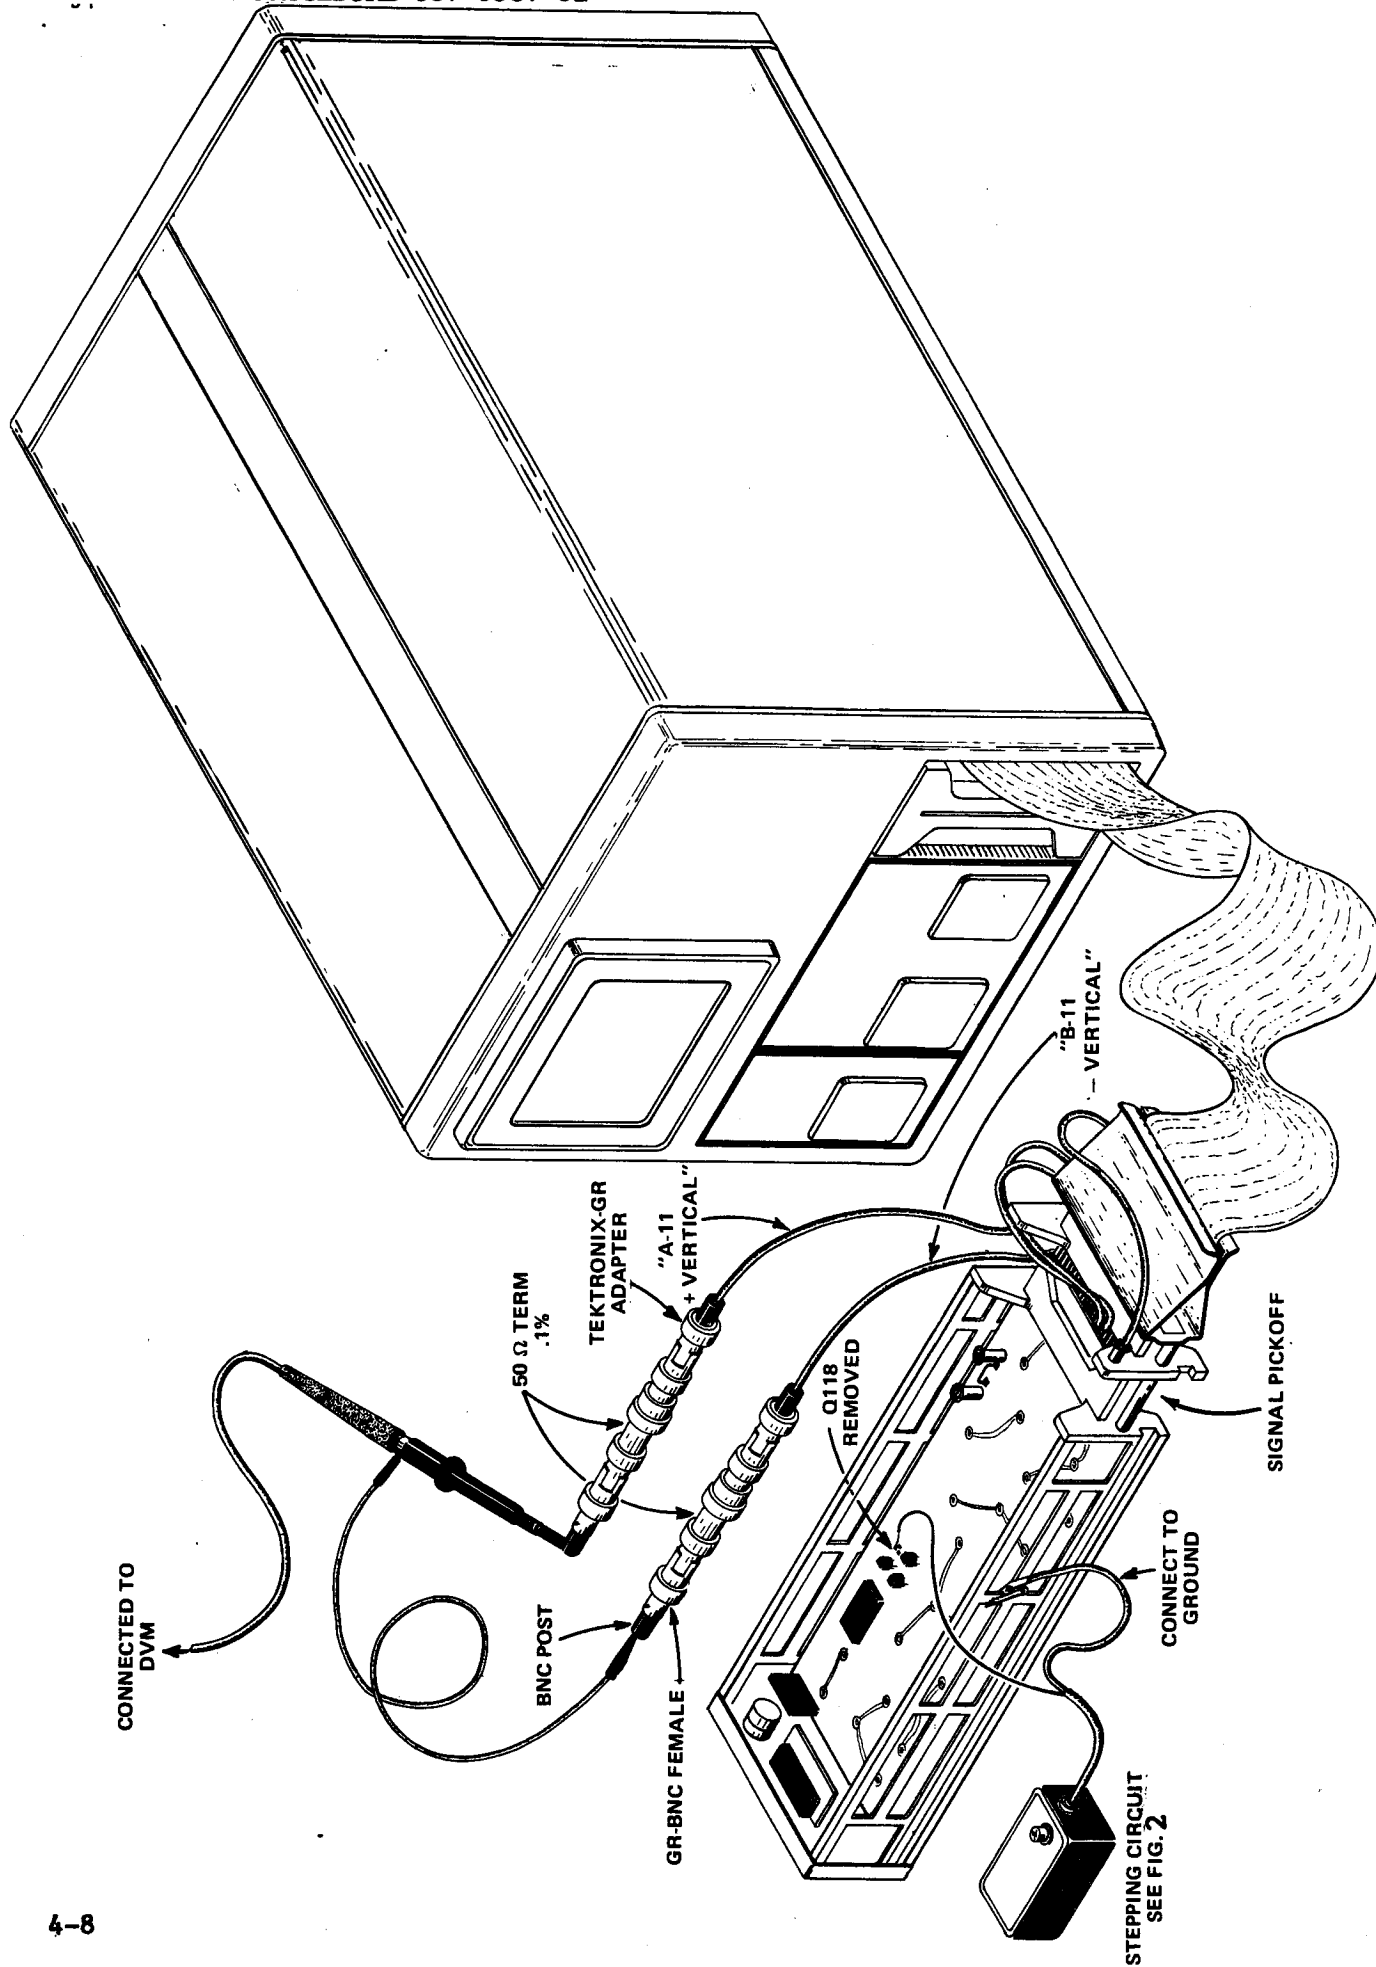

Fig. 1. Primary set-up for checking gain.
d. Connect the Precision 50 Ω Terminators to the "A-11 VERTICAL" and "B-11 VERTICAL" lines of the Signal Pickoff device using Tektronix to GR adapters. Connect the free end of the "A-11 +VERTICAL" Precision 50 Ω Terminator to the +DVM input using GR to BNC adapters and BNC to post adapter. Connect the free end of the "B-11 VERTICAL" Precision 50 Ω Terminator to the -DVM input in the same manner. Refer to Fig. 1 for setup information.